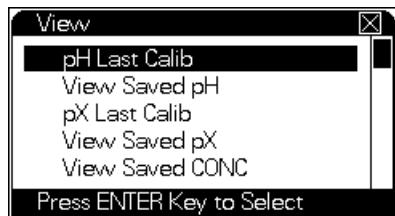

Figure 34 Viewing data
- 2 Navigate to the type of data to view and press [**Enter**]. See Figure 34.